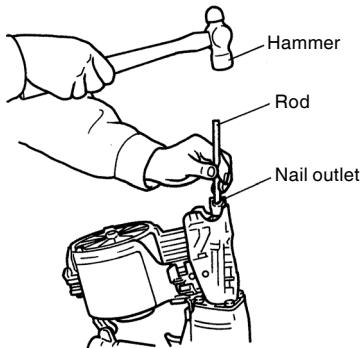

Fig. 18
- (1) Remove the nail roll from the magazine, open the nail guide, insert a rod into the nail outlet and tap the rod with a hammer. (Fig. 18)